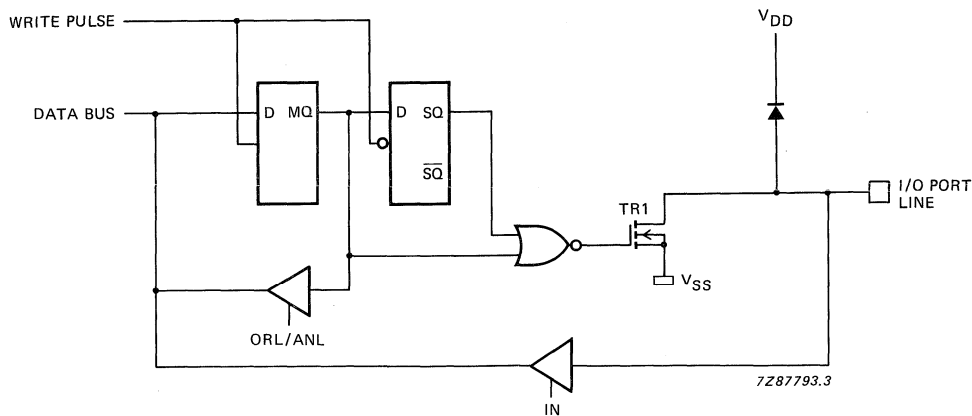

Fig. 11 Open drain output.
- Option 2 – OPEN DRAIN; quasi-bidirectional I/O with only an N-channel open drain output. Application as an output requires connection of an external pull-up resistor (Fig. 11). When an open drain port is unused it must be connected to VSS.